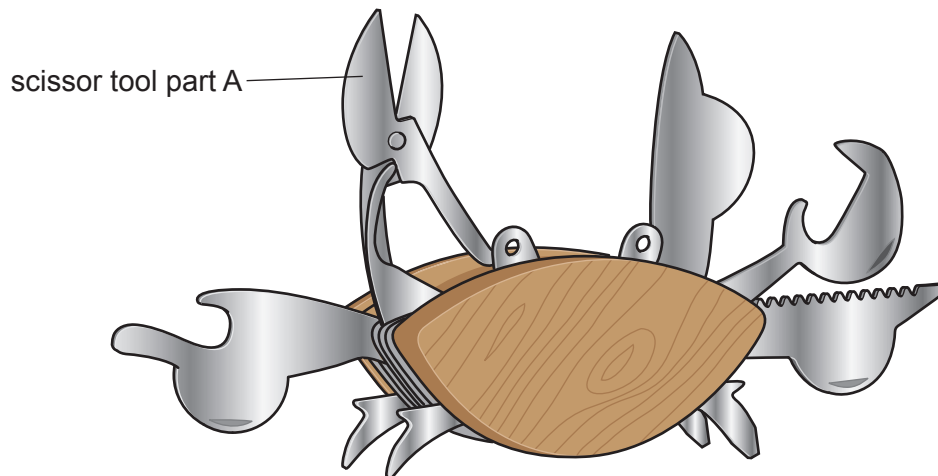

Fig. 4.1
- 4 **Fig. 4.1** shows a multi-tool. A multi-tool is a small device that incorporates several fold-out tools in one product.
- (a) Identify **two** features of the multi-tool shown in **Fig. 4.1** that enhance its aesthetic appeal.
- (b) Identify **two** features of the multi-tool shown in **Fig. 4.1** that enhance its usability.
- (c) The scissor tool part A shown in **Fig. 4.1** is made from a ferrous metal.